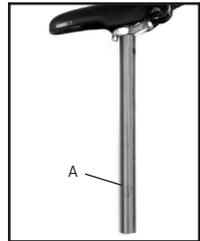

Figure 19- Minimum insertion mark on seatpost
- Make sure the minimum insertion mark on the seatpost (Figure 19) is not visible above the bike frame. A minimum of 2 1/2" (64 mm) of seatpost must remain in the frame.
A seatpost that is positioned too high can damage the bike and can cause you to lose control and fall. Make sure the minimum insertion mark (Figure 19) is inside the frame.